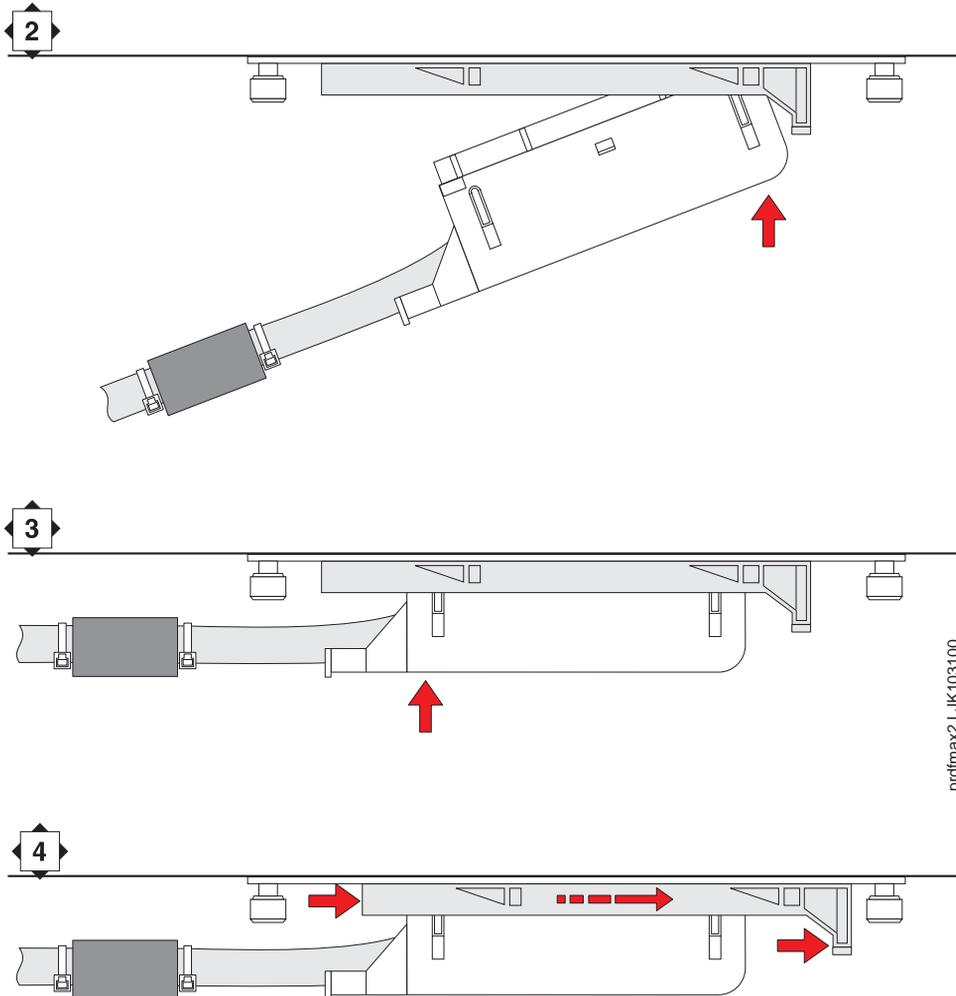

Figure 13. Connector at proper angle (45 degrees) for insertion
2. Place the top of the 68-pin connector at a 45-degree angle to the far right side of the pins (see Figure 13).